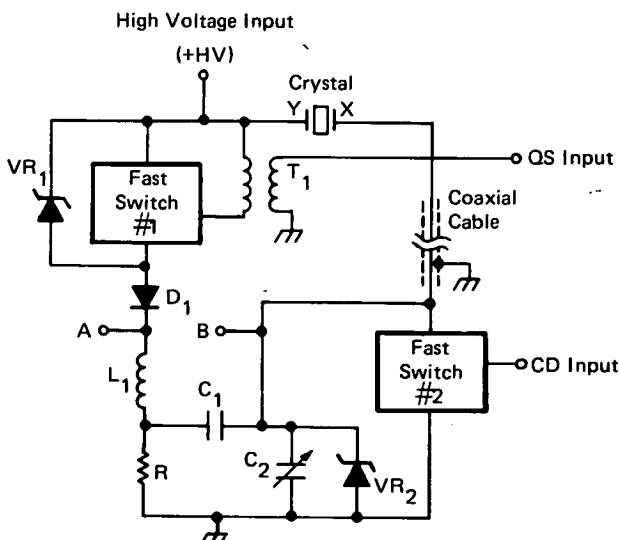

Figure 1. Switching Circuit
A simplified schematic of the circuit is shown in Figure 1. A high voltage is applied to the input terminal by a dc supply (not shown), and controlling commands are applied to the Q-Switching (QS) and